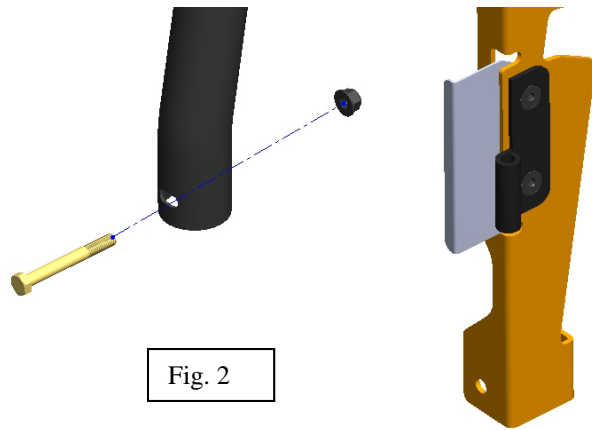

Fig. 2
1. Refer to Fig. 2. Remove the stock bolt from the bottom of the B-Pillar.